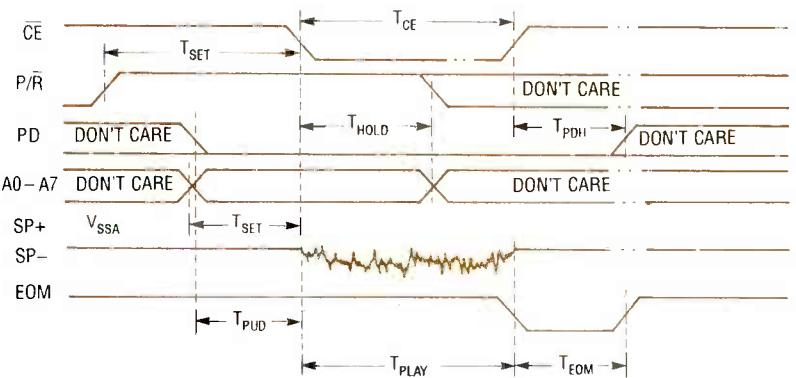

FIG. 4—PLAYBACK TIMING DIAGRAM. When operating the device under microprocessor control or other high-speed device, these parameters must be considered.
FIG. 4—MISCELLANEOUS CIRCUITS: (a) shows the reset circuit; (b), (c), and (D) show the status LED drivers; (e) shows the speaker driver; (f) shows the RS-232 interface; (g) and (h) show the DTMF interfaces. Use only one of (g) or (h), depending on the availability of DTMF decoder IC's.
Op-amp IC1-c functions as a unity-gain differential amplifier to buffer telephone audio. Capacitors C1 and C2 AC-couple the audio from the phone line; the pin-8 output of IC1-c (AUDIO) drives the DTMF decoder (IC2, shown in Figure 4) directly. (The circuit allows for two different DTMF decoders, a 75T204, shown in Fig. 4-g, and a 75T202, shown in Fig. 4-h. The PC board allows use of either.) The DTMF decoder incorporates switched-capacitor filtering to separate the low- and